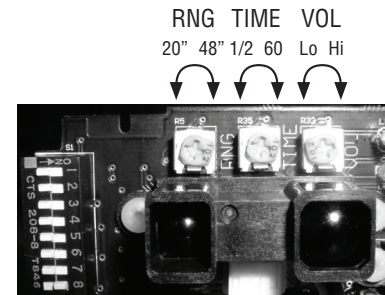

Fig. 9
1. The detection distance (range) threshold is adjusted using the single-turn 'RNG' potentiometer (Fig. 9). To decrease the detection distance, turn the pot counterclockwise. The minimum detection distance is approximately 20". To increase the detection distance, turn the pot clockwise. The maximum detection distance is approximately 48".
2. The relay hold time is adjusted using the single-turn 'TIME' potentiometer (Fig. 9). Adjustment is from 1/2 to 60 sec. The potentiometer will be non-linear, with the first 10 seconds covered by the first half potentiometer sweep and the 11 to 60 seconds covered by the second half potentiometer sweep. To decrease the hold time, turn the pot counterclockwise. To increase the hold time, turn the pot clockwise.
3. The alarm volume is adjusted using the single-turn 'VOL' potentiometer (Fig. 9). To decrease the volume, turn the pot counterclockwise. To increase the volume, turn the pot clockwise. The rated output of an audible signal device, stated as a sound pressure level (SPL), shall produce a minimum of 70 dBA up to a maximum of 100 dBA at 1 m, when driven at the rated input. For CAN/ULC installations this is achieved by turning the VOL potentiometer to the maximum setting.
4. DIP Switch Settings 8 position DIP (Fig. 9).